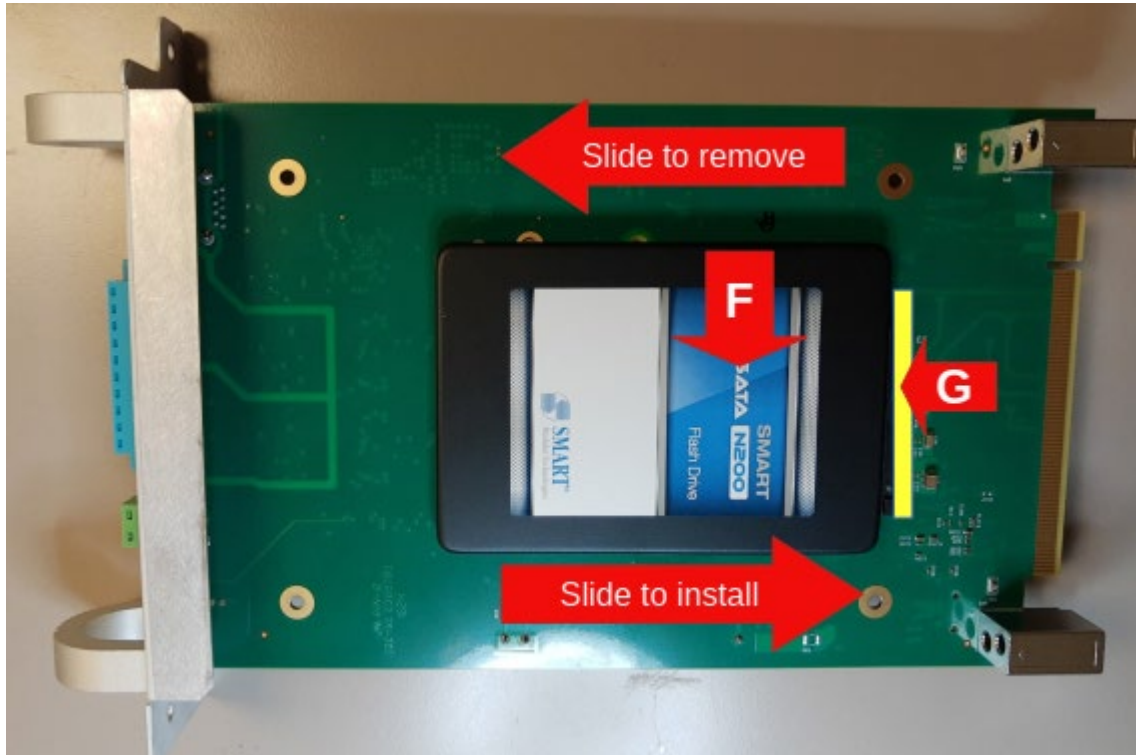

Figure 9-4 Hard Disk position in SSD Module
7. Slide and remove the Hard Disk marked (F) in Figure 9-4.
8. Position the Hard Disk and slide into connector (G) in Figure 9-4.
9. Screw back (E).
11. Screw the thumb screws (C).
12. Insert connectors (A) and (B).
13. Screw with a Phillips screwdriver screws (A) and (B).